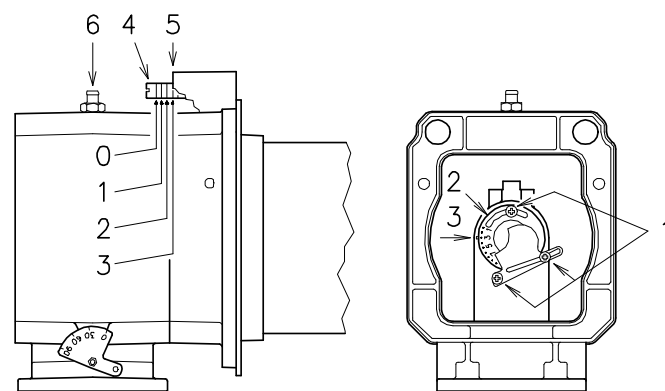
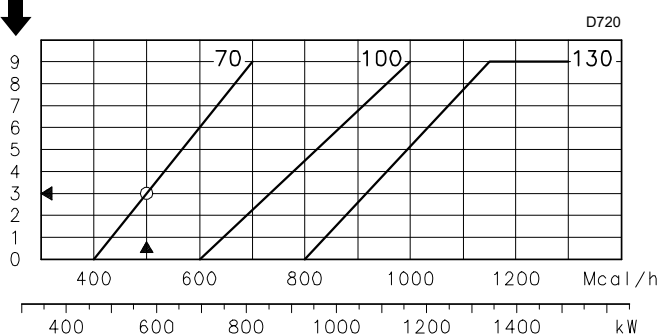

Fig. 14
Fig. 15
In the diagram (Fig. 15) locate the notch to which both air and central gas/air should be adjusted.
- Turn the screw 4 (Fig. 14) until the notch found lines up with the front surface 5 of the flange.
To facilitate the adjustment, loosen the screw 6 (Fig. 14), adjust, then block.
- Loosen the screws 1 (Fig. 14) and rotate the ring nut 2 until the notch you have found corresponds with the indicator 3).
The diagram (Fig. 15) shows that the gas and air adjustments for this output should be carried out on notch 3.
Gas ring nut 2)(Fig. 14 on page 18) adjusted as in the diagram (Fig. 15 on page 18).